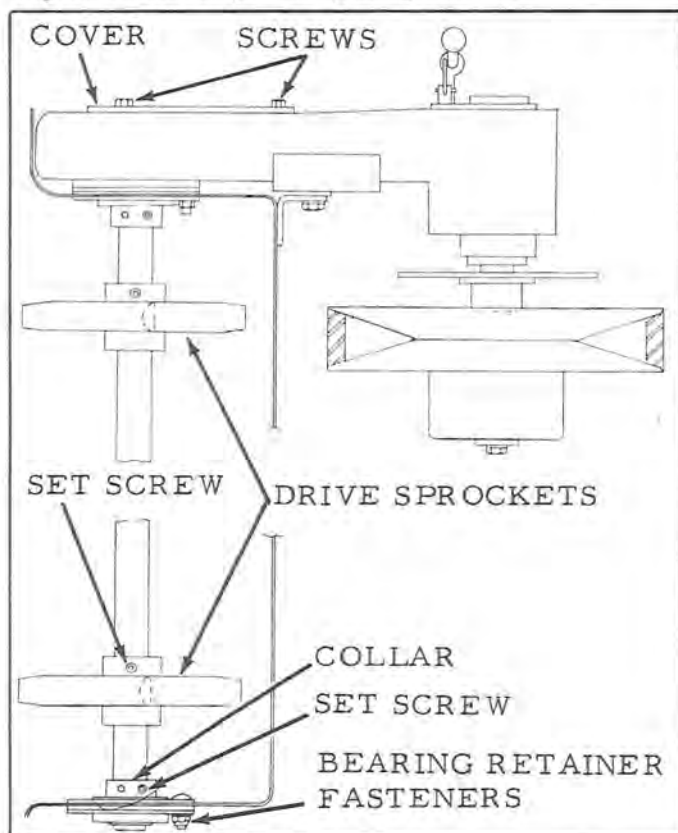

Figure 2
4. Remove the three screws, lock washers, and nuts that hold the bearing retainer to the right side of the sled (See Figure 2).
8. Remove the set screw in the collar at both ends of the drive shaft. There is a notch in each collar. Insert a punch into the notch. Tap the punch lightly to loosen the collar (See Figure 2).
9. Remove the three screws which secure the chain case cover (See Figure 2).